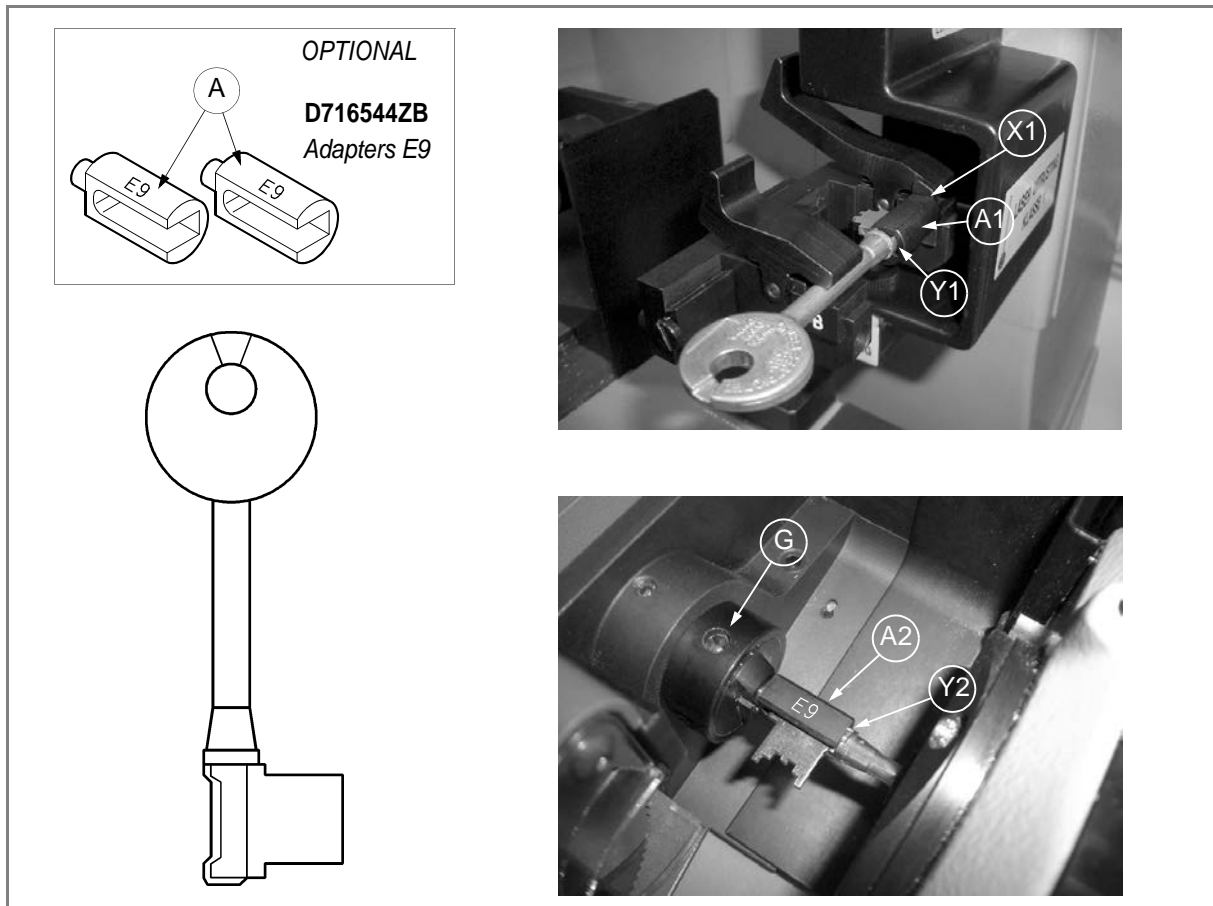

Fig. 38
The Chubb adapter set is required for the code-cutting of Chubb keys (CHUBB RKS) with square section stems (fig. 38). It comprises 2 identical adapters (A) for the optic reader clamp and the swivel clamp.
- 3) Place the second adapter (A2) into the standard tailstock and tighten the grub screw (G) (fig. 38).